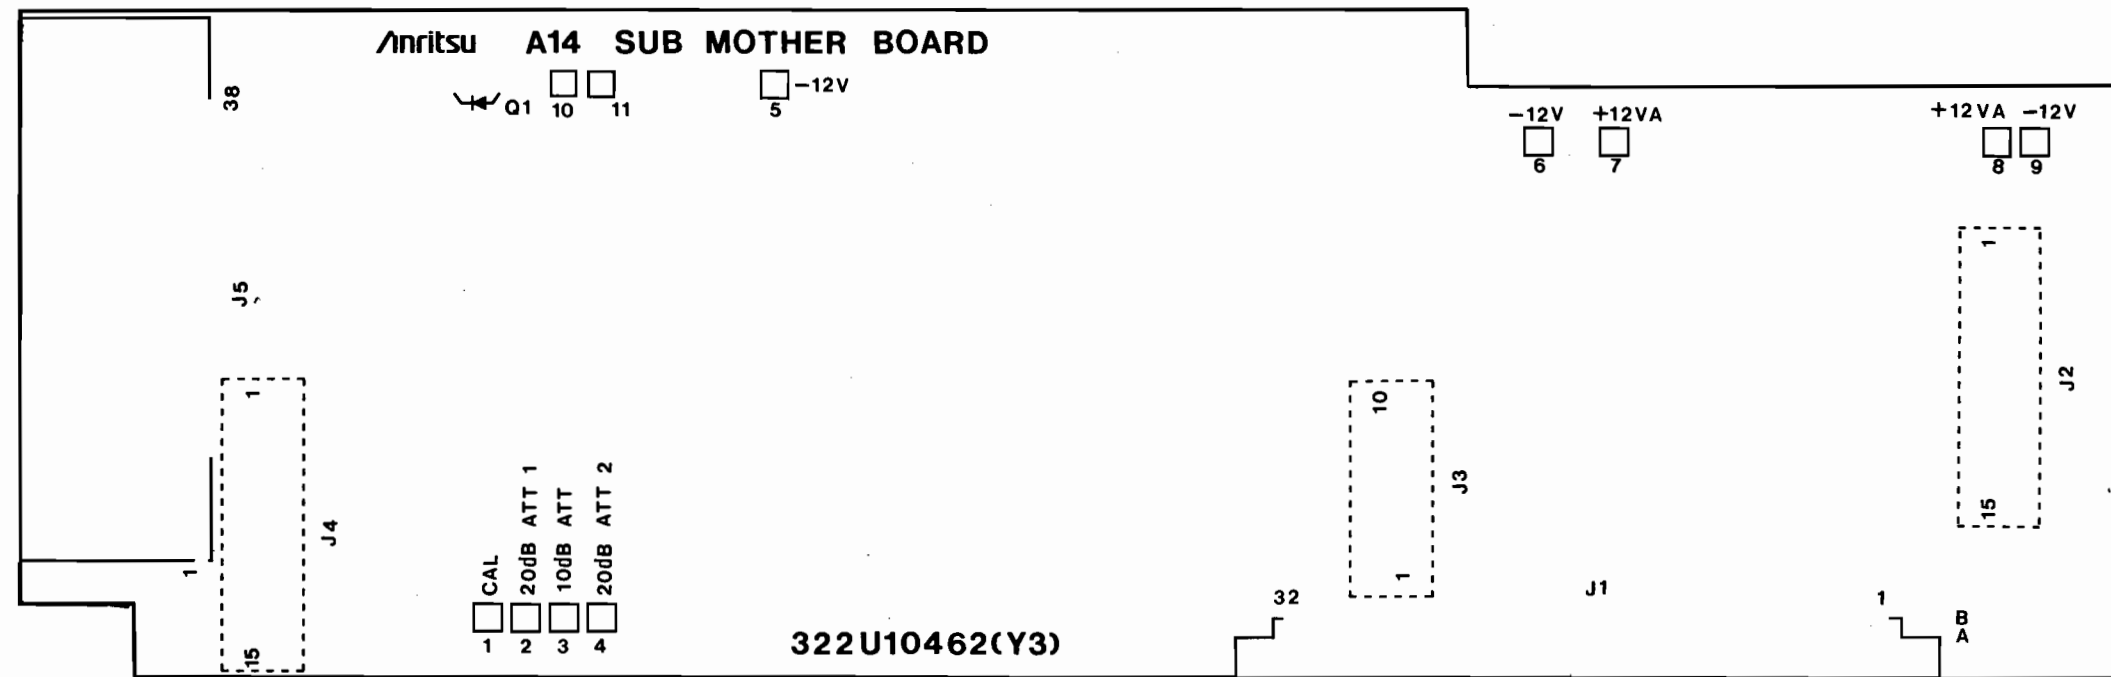

Fig. 3-61 A14 SUB MOTHERBOARD
2. A14 SUB MOTHERBOARD (Fig. 3-61, **25**)